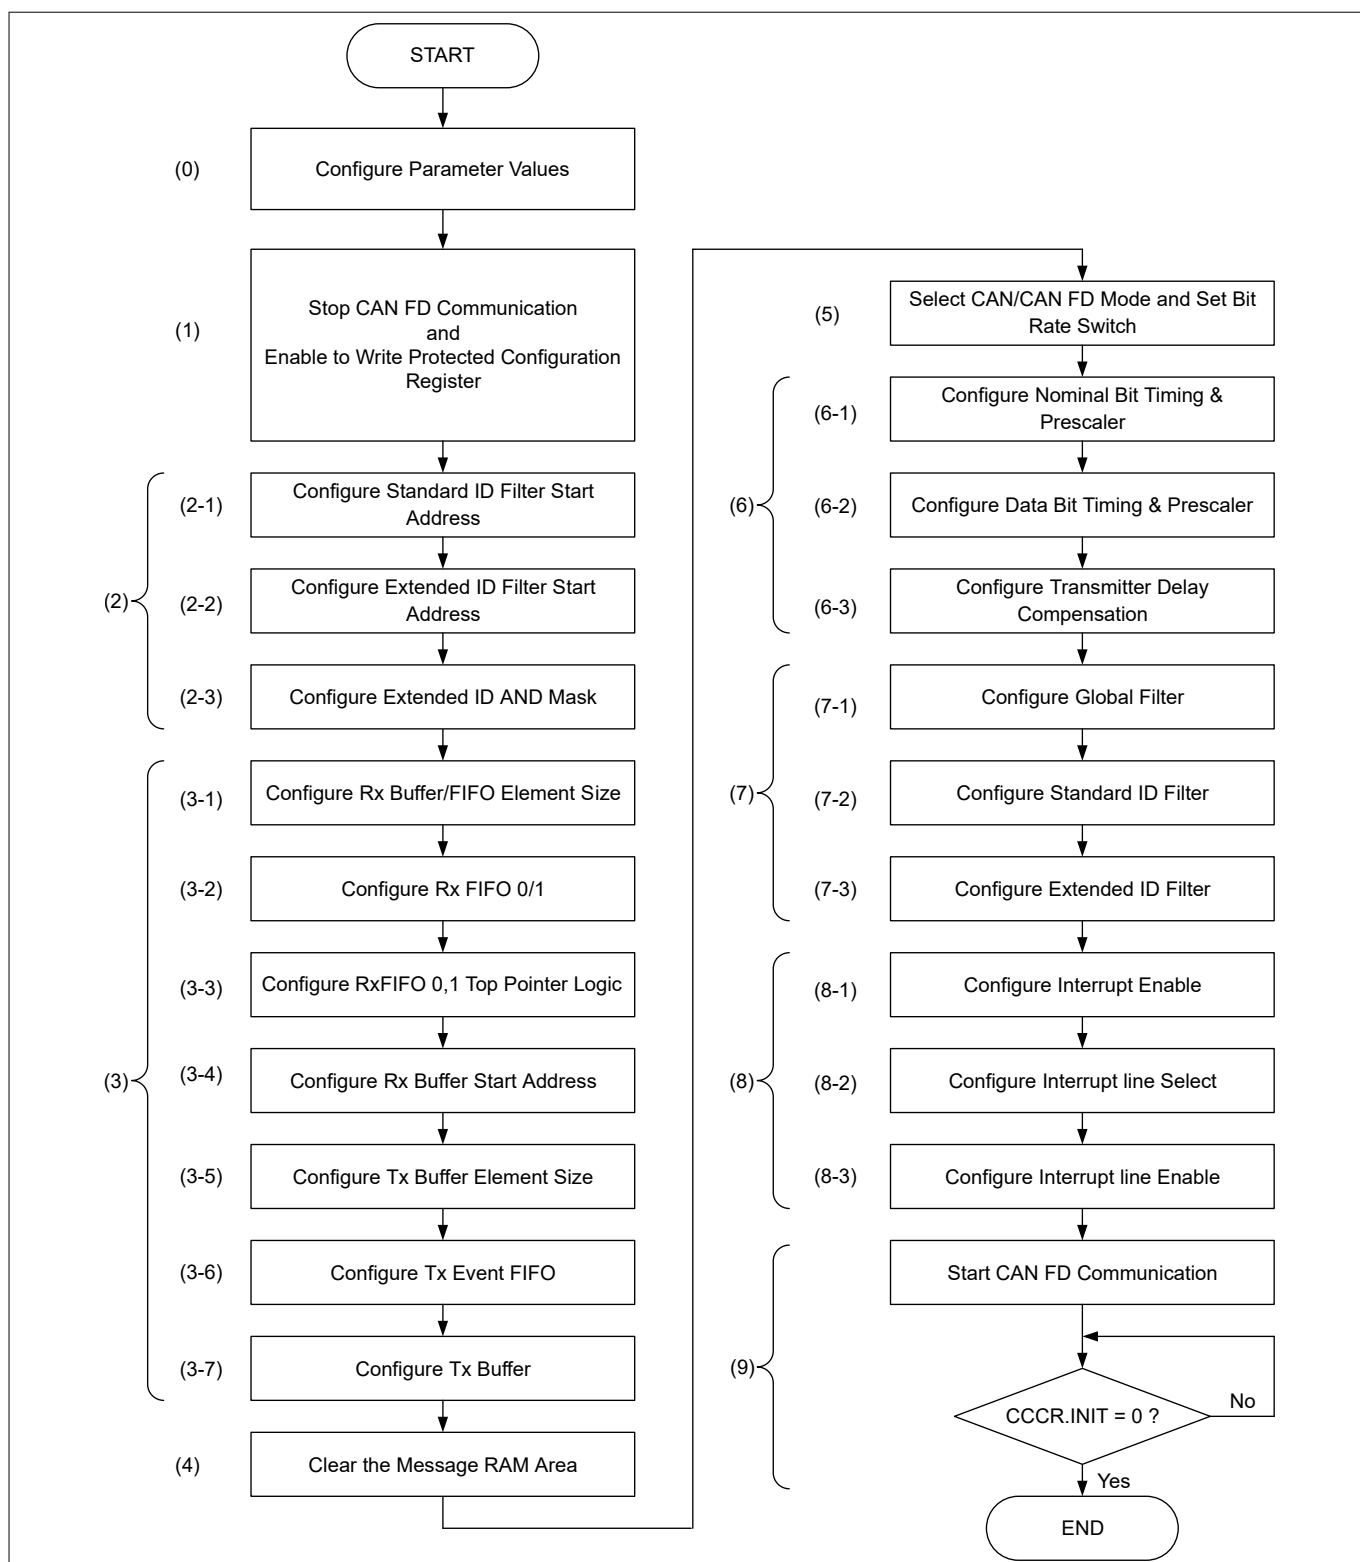

Figure 5 Example of CAN FD Initialization Flow
Figure 5 shows the flow to initialize the CAN FD controller. In this flow, (0) is performed in the configuration part, and (1) to (9) are performed in the driver part.
(0) Configure the parameter values according to the system.
(1) Set initialization register (CCCR.INIT) to “1” and stop CAN FD communication. Then, enable the Configuration Change Enable register (CCCR.CCE) to enable write access to the write-protected CAN FD configuration registers.
(2) Configure the number of elements of the message filter and the start address offset in the Message RAM with the Standard ID Filter Configuration (SIDFC) register and the Extended ID Filter Configuration register (XIDFC). Configure the Extended ID AND Mask (XIDAM) register for masking the ID bits that are not to be used for extended ID message acceptance filtering.
(3) For Rx and Tx messages, configure the element size of the Rx FIFO and start address offset in Message RAM with the Rx FIFO 0 Configuration (RXF0C) register and Rx FIFO 1 Configuration (RXF1C) register. The Rx FIFO Top pointer logic is enabled/disabled by setting the RXFTOP_CTL register.